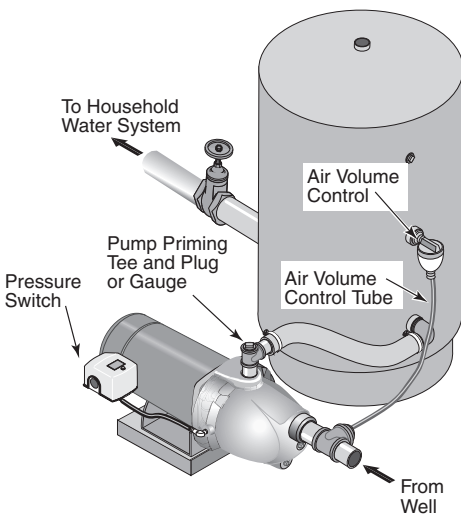

Figure 5: Standard Tank Connections
## STANDARD TANK CONNECTION (Figure 5)
- Step 1. Install one tee in the pump discharge port (see Figure 5).